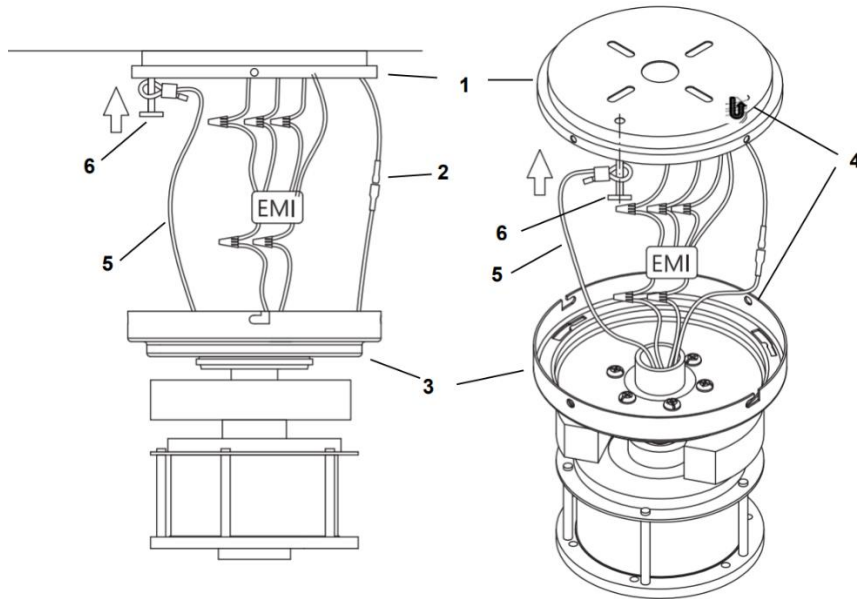
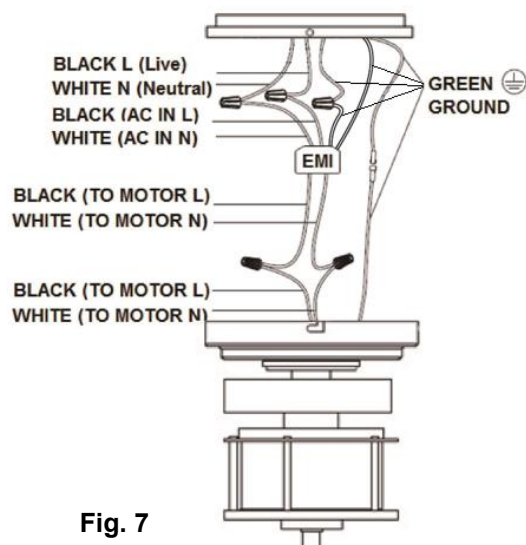

Fig. 6
Fig. 7
1. Lift the fan assembly to the mounting bracket (1) and let the J-hook of the mounting bracket (4) go through the hole of the hanging plate and hang up the fan assembly (3). Fig. 6
2. Connect the male and female connector together (2). Fig. 6
3. Pull the safety cable (5) on the scw (6) and tight . lock the scw (6) into the ceiling through the hole of mounting bracket , tight the safety cable .
4. Complete the electrical wiring using the diagram below (Figure. 7).
1. Connect the household live supply wire (black) to EMI filter input wire (black, AC IN L) as shown in Fig. 7.